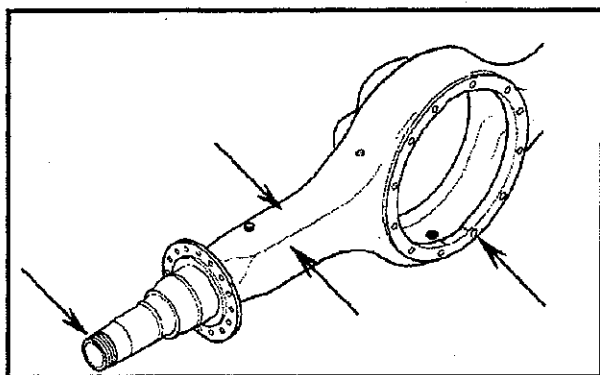

Figure 20—Housing Inspection Areas.
5. Inspect housing for stripped or damaged threads and bending fatigue. (See Figure 20—Housing Inspection Areas.)